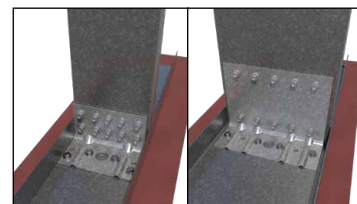

Figure 2 #12-24 screws
- A "#" in the shear column indicates that the shear capacity is limited to 963 lbs for D683 and T683 clips, 1374 lbs for D973 and T973 clips, and 1816 lbs for D685, D975, T685, and T975 clips when using #12-24 self-tapping screws to 3/16" A36 steel as shown in Figure 2.